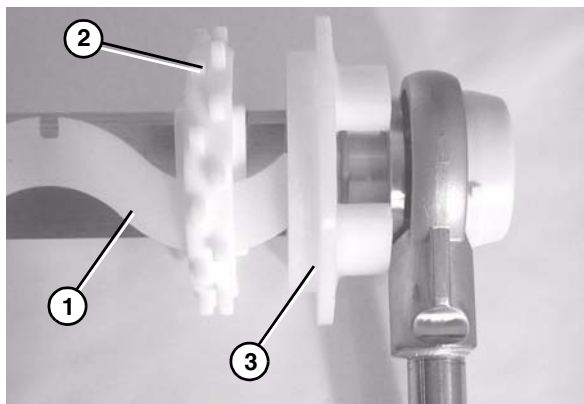

Figure 75
3. Insert the sprocket alignment bar (**Figure 75, item 1**) into the first sprocket (**Figure 75, item 2**) resting it up against the flanged puck (**Figure 75, item 3**). Position the first sprocket with the notch in the sprocket alignment bar.